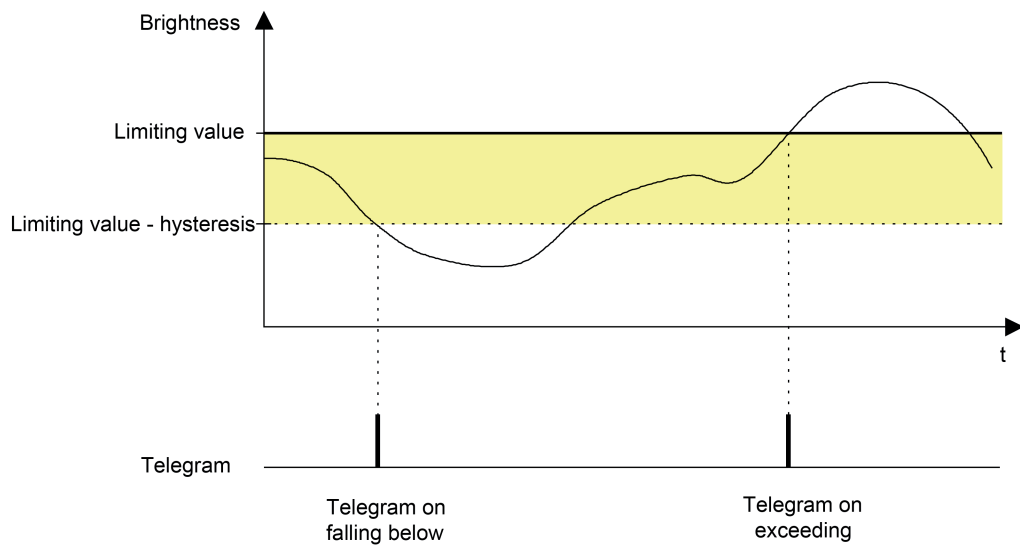

Figure 30: Example 1 of the limiting value definition
1. Brightness limiting value = Upper threshold (Figure 30)